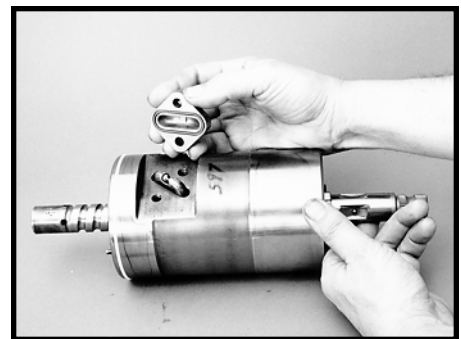
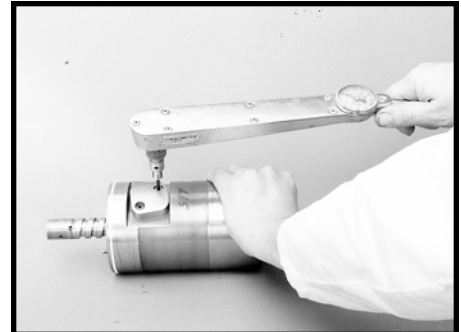

Figure 115
Figure 116
11. If your gear is equipped with the ball return guide cap (46), instead of the clip, grease the new ball return guide cap seal (45) and place it in the seal groove of the cap. Assemble the cap so that the seal makes full contact with the rack piston surface. SEE FIGURE 115. Install the two new Allen head or Torx head screws (47) and torque them to 14-22 ft. lbs. (19-30 N m). A 5/32 inch Allen socket or a T-30 Torx socket required. SEE FIGURE 116.